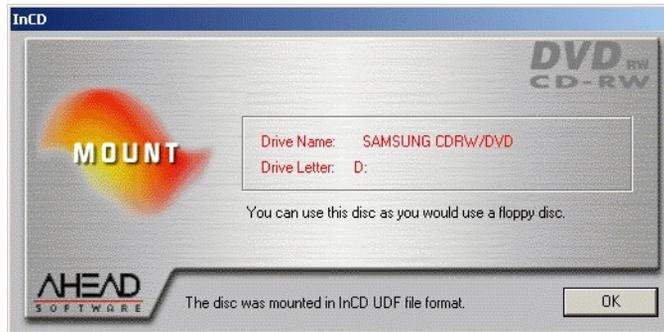

Figure 43 InCD Dialog Box
4. Insert a blank, formatted, rewritable CD (supplied with the server) into the CD-RW (**D:**) drive. After a few moments, the *InCD* dialog box displays, indicating the presence of a CD in the drive (Figure 43). Click *OK* to close the *InCD* dialog box.